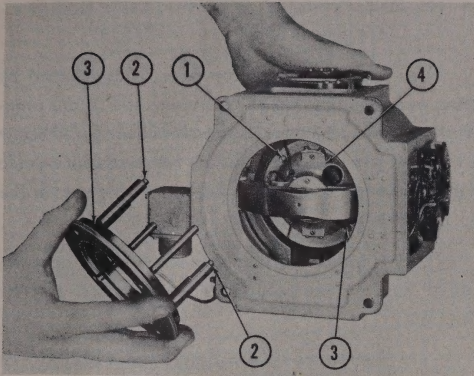

Figure 163 — Inserting Rotor Stand Through Housing
(c) (See figure 163.) Insert a rotor case stand (1) through bottom opening of gyro housing so that the pins (2) on the stand enter balance screw holes (3)